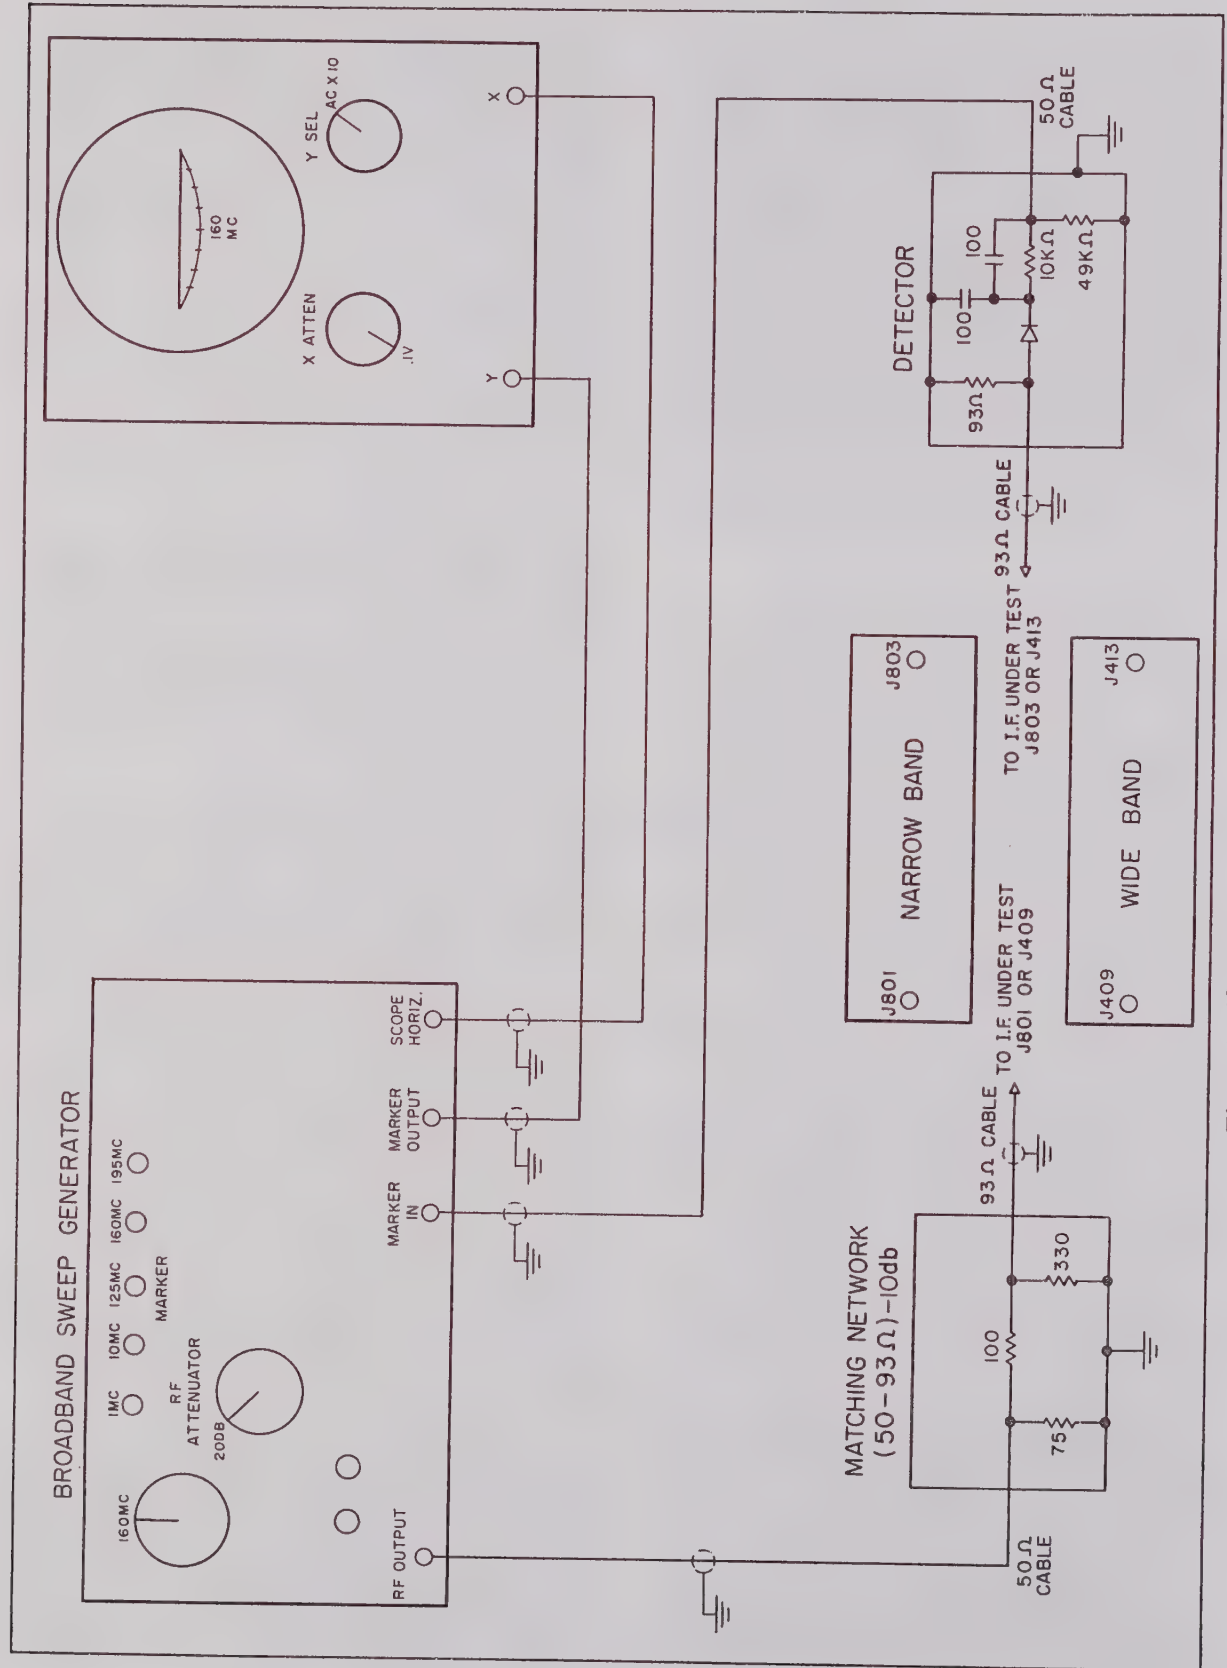

Figure V-12. 160 MC I-F Test Set-up (SPA-4a)
2. Preliminary Alignment (Fig. V-4 and Fig. V-12)
matching network to J417 of F1401. Connect J419 through a 93 ohm detector to the MARKER IN jack of the broadband sweep generator similarly to hookup shown in Figure V-12.